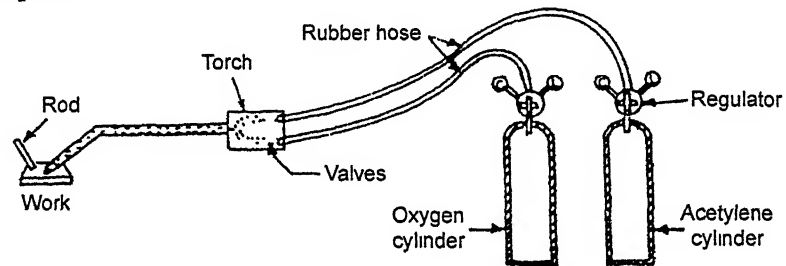

Fig. 13.5.
- It is a method of fusion welding in which a flame produced by the combustion of gases is employed to melt the metal. The use of an oxyacetylene flame is the most widely employed method of *welding iron, steel, aluminium, cast iron and copper*, the equipment required, as illustrated in Fig. 13.5 being *considerably cheaper and simpler than that needed for electric welding*. For a certain classes of mass production work, however, electric welding will always prove superior both in quickness and cheapness.